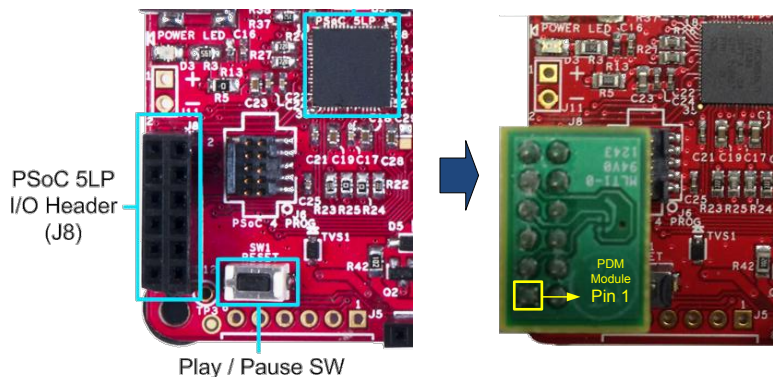

Figure 12: Plugging in PDM Module into P5LP Header
- Plug in the PDM Microphone module into the Pioneer Kit as shown in the Figure 12.